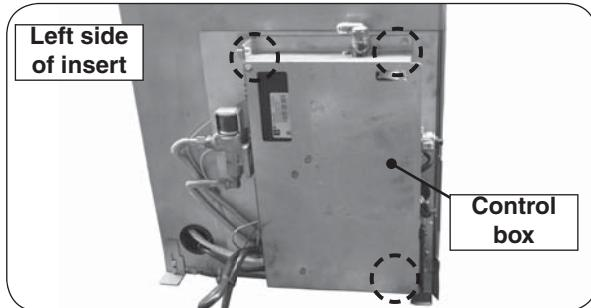

Fig. 1-1 Remove control box
1. Use the 5/16" nut driver to remove the three screws along the control box, then remove the box (see Fig. 1-1).